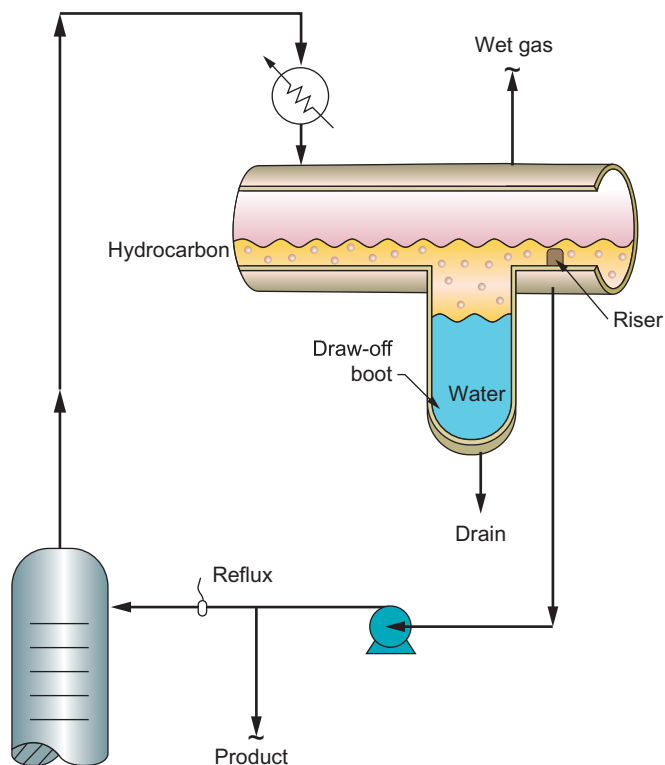

Figure 15.15 Vessel draw-off boot.
- Boot**—a section at the bottom of a process vessel where water or other unwanted fluid is collected and removed. This area is located at the lowest section of the vessel. Figure 15.15 shows an example of a boot.